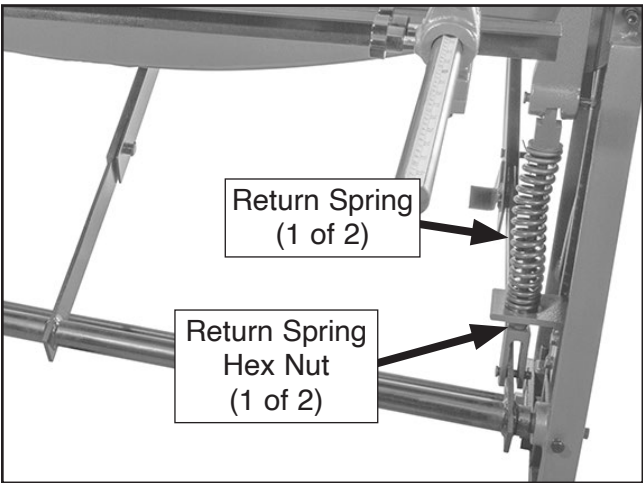

Figure 38. Return spring tension adjustment components.
1. Adjust (2) return spring hex nuts in small, equal increments (see **Figure 38**).